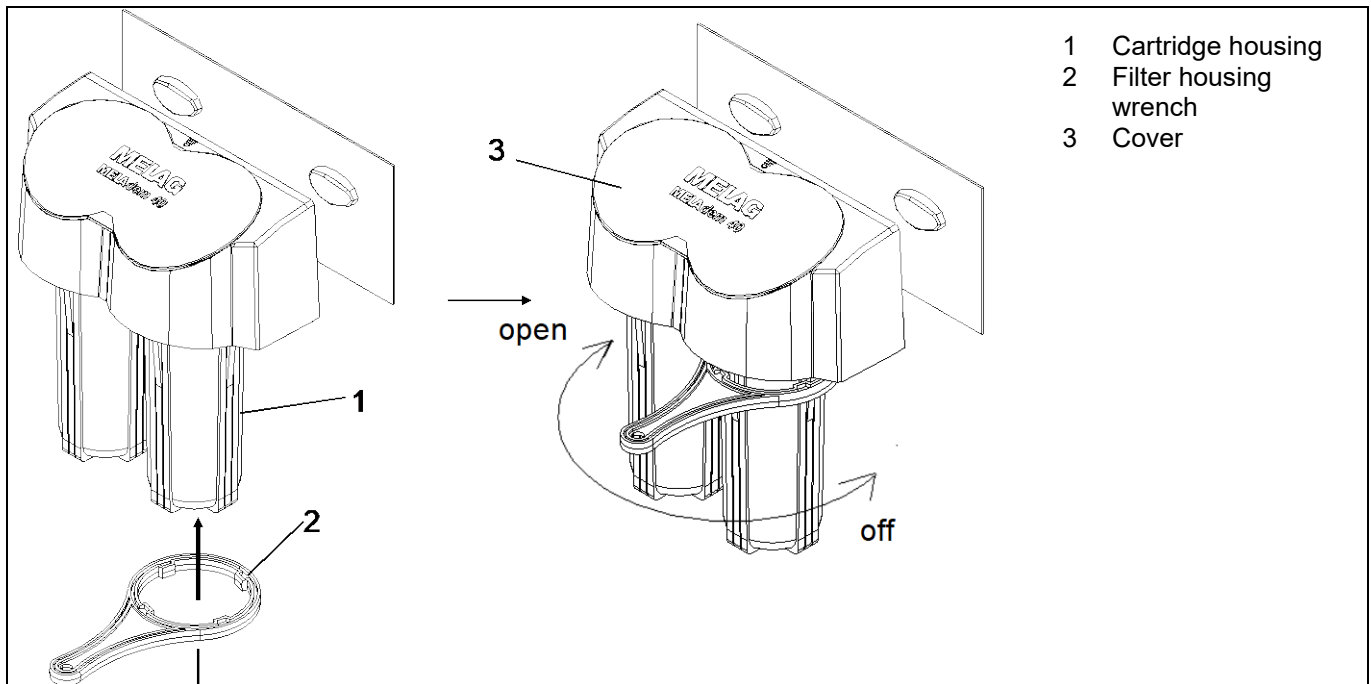

Figure 12: How to use the cartridge housing wrench
- Slide the wrench from the bottom onto the filter enclosure, and move it up toward the top as far as will go. Allow it to lock into place there. Open each of the container elements by turning the wrench clockwise (as seen from above): see *Figure 12*). As soon as the container elements can be easily turned, you can remove the wrench and unscrew the elements by hand for the last turns.